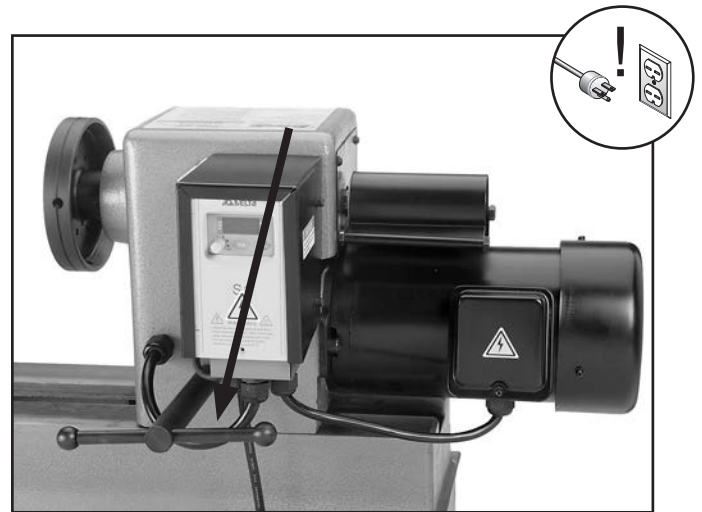

Figure 20. Headstock lock handle.
2. Loosen the headstock lock handle (see **Figure 20**).